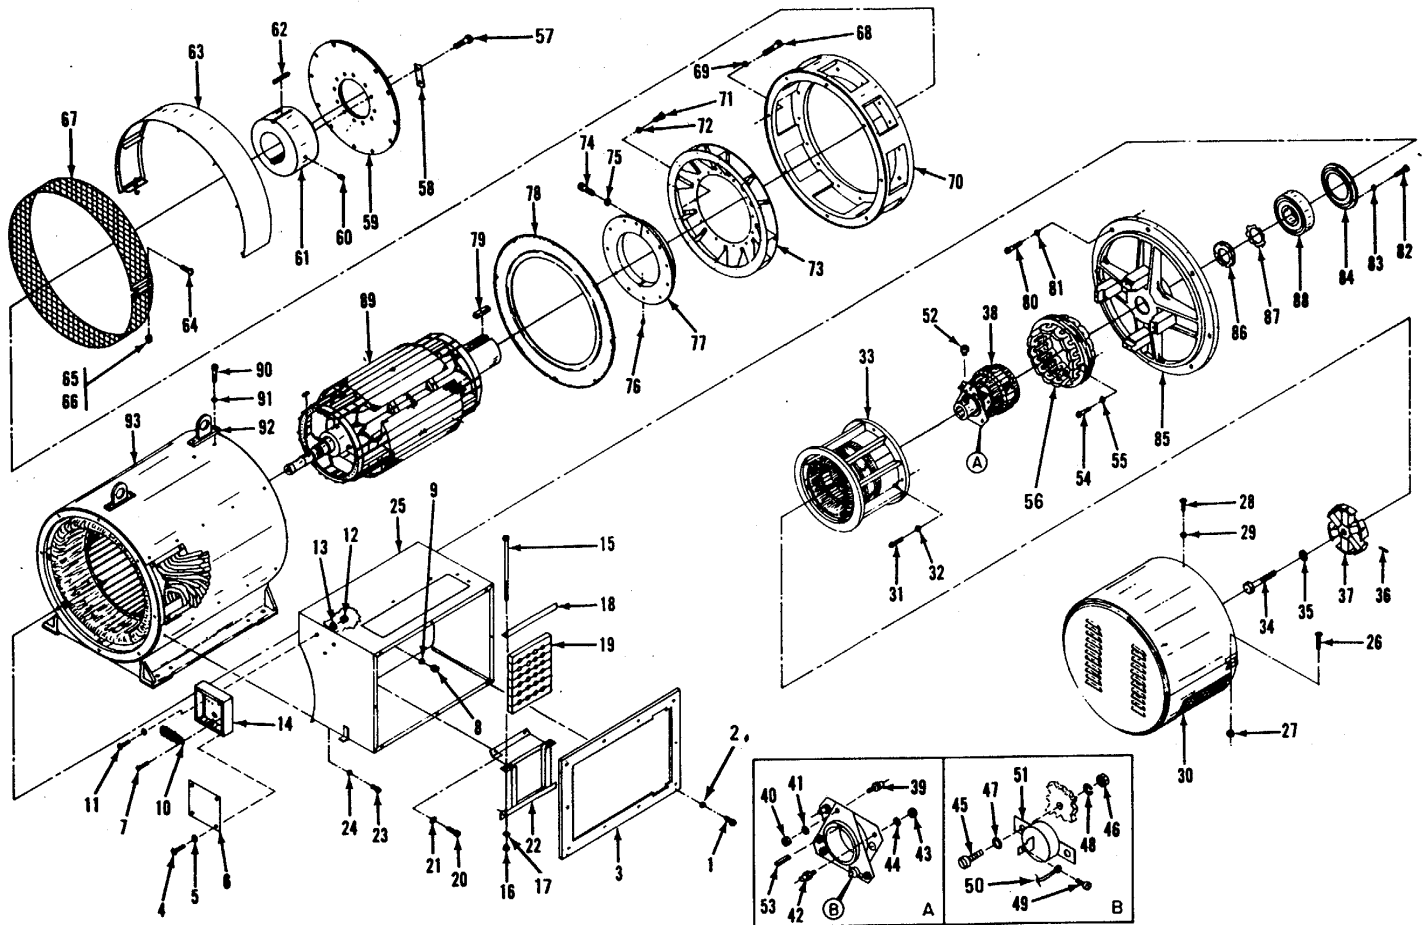

Figure 11-3. Generator Assembly, Exploded View
- (i) Tag and disconnect the two top leads at terminals 1 and 2 of TB210 (14, figure 11-3). Read the exciter field resistance at terminals 1 and 2 with a Wheatstone bridge. The exciter stator field resistance should be 10.7 ± 10 percent ohms at an ambient temperature of 77°F (25°C).
- (3) Stator. Perform the following stator winding short circuit test.
- (b) The permanent magnet assembly must be removed prior to removing generator from generator set, as follows (see figure 11-3):
- (1) Remove screws (16 and 28), washers (29), and nuts (27) and remove cover (30).
- (2) Remove screws (31) and washers (32) and remove permanent magnet stator (33).
- (3) Remove bolt (34), washers (35) and spring pin (36) and remove magnet rotor (37).
- (2) Remove screw (15, figure 11-3), nut (16), and lockwasher (17) and separate lead clamp (19) in order to remove generator cables.
- (3) Disconnect and tag wires in lead box (14).
- (4) Remove screws (8), washers (9), screws (23), and washers (24). Separate output box (25) and wires and cables from generator.
- (1) Remove covers (63 and 67, figure 11-3) by removing screws (64), washers (66), and nut (65),
LEGEND FOR FIGURE 11-3